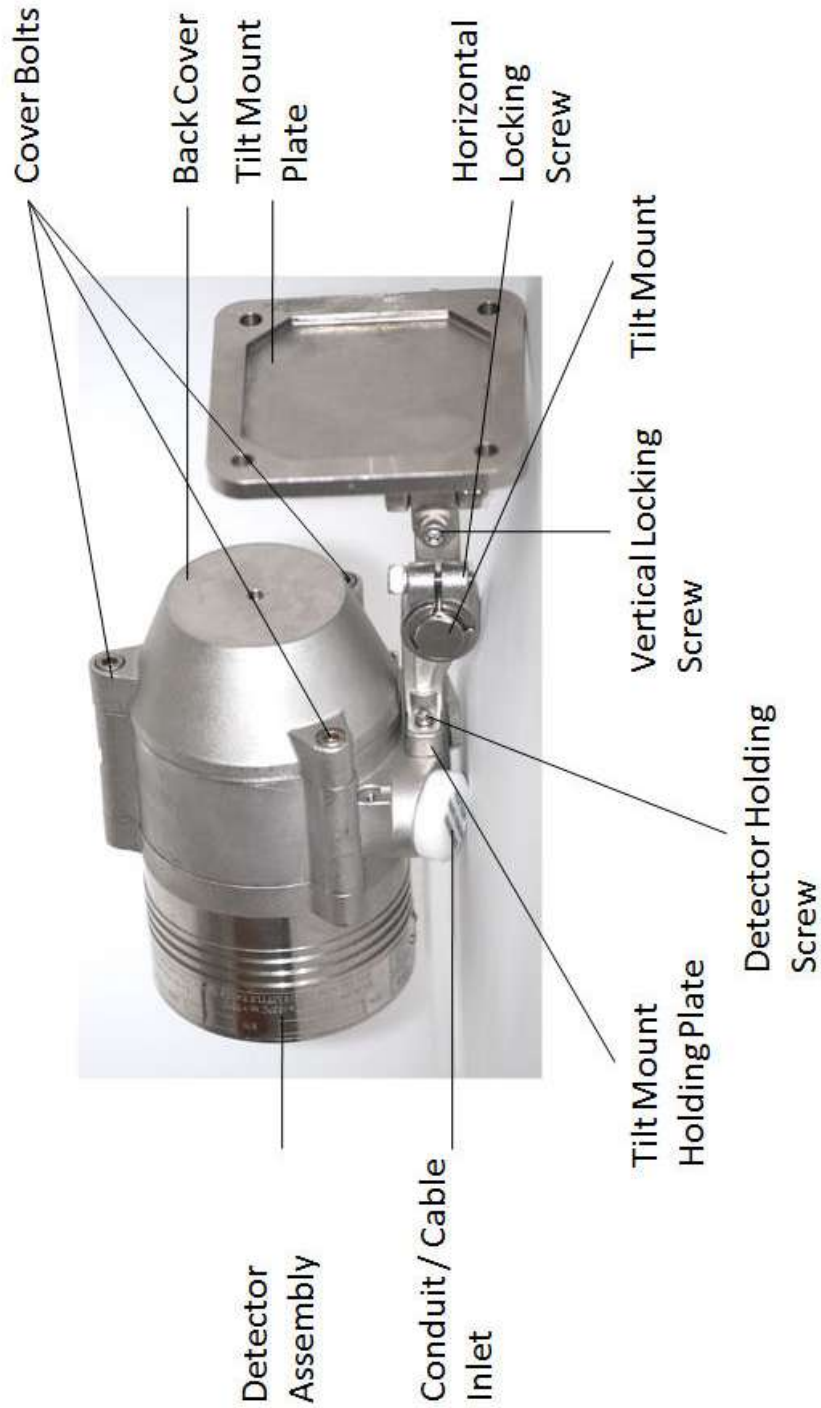

Figure 4: Detector with Tilt Mount
The Tilt Mount enables the detector to be rotated up to 60° in all directions. Figure 4 shows the Detector mounted on the Tilt Mount.
- 9 Place and secure the detector's back cover by screwing the four (4) socket-head-screws in the Cover Bolts (Figure 4).